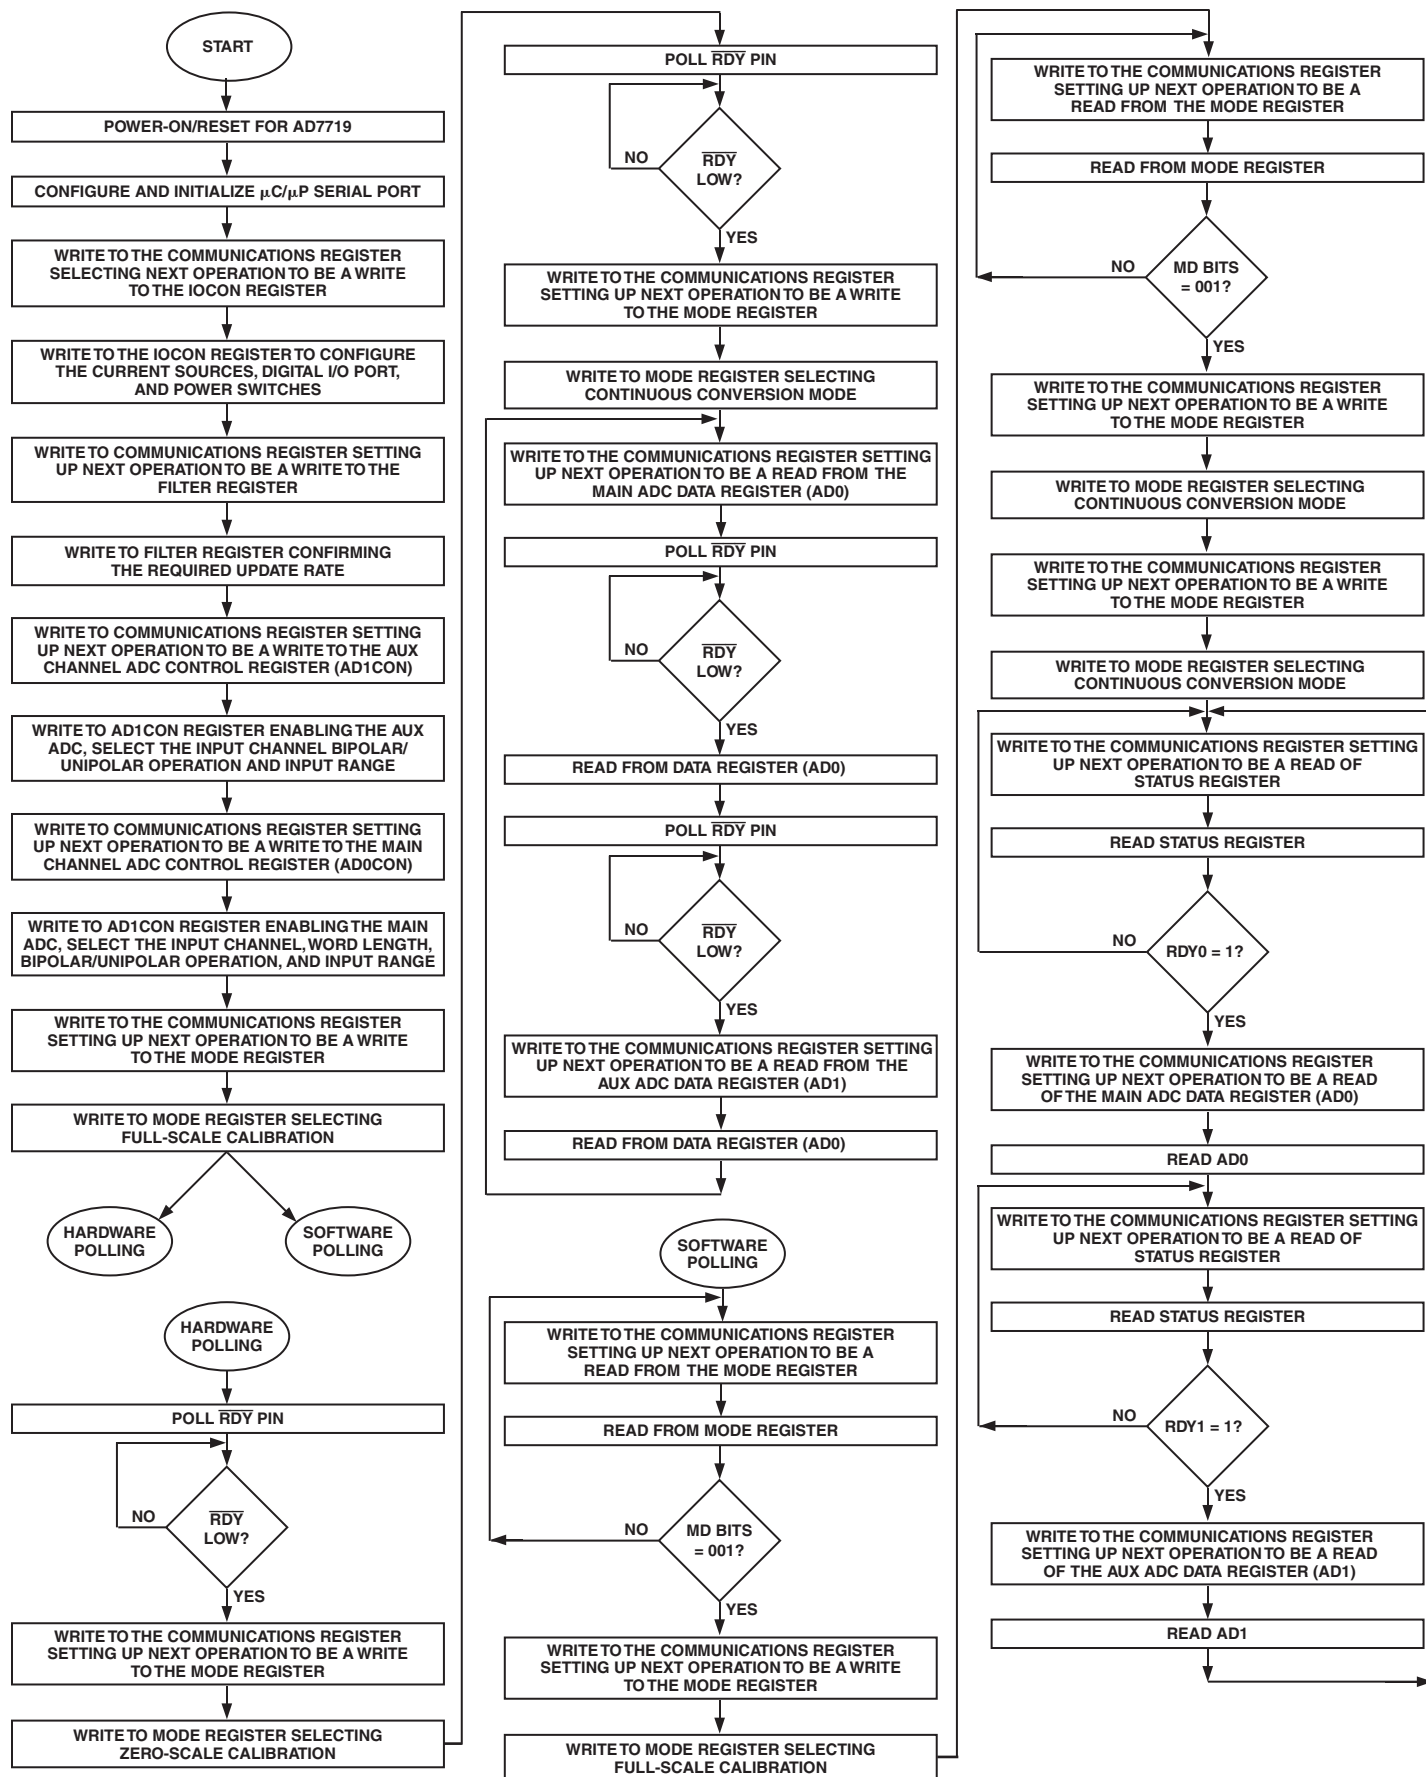
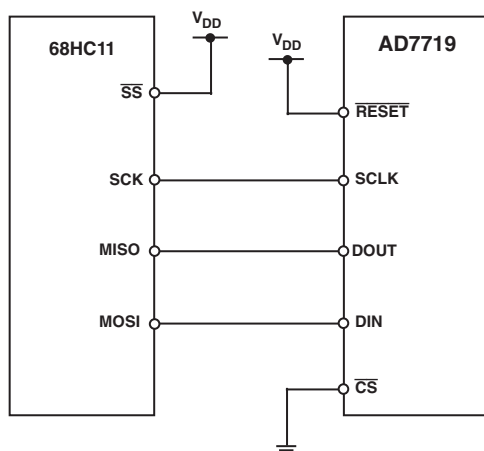

Figure 11. Flowchart for Initializing, Calibrating, and Reading Data from the AD7719 Main and Aux Channels
Figure 12. AD7719-to-68HC11 Interface
Figure 11 outlines a flow diagram of the sequence used to configure all registers after a power-up or reset on the AD7719. The flowchart shows two methods of determining when it is valid to read the data register or determine when a calibration cycle is complete. The first method is hardware polling of the $\overline{\text{RDY}}$ pin and the second method involves software interrogation of bits in the status and mode registers. The flowchart details all the necessary programming steps required to initialize the ADC and read data from the main and aux channel following a power-on or reset. The steps can be broken down as follows:
3. When the operating mode is selected, the user needs to determine when it is valid to read the data in conversion mode or when the calibration is complete in calibration mode. This is accomplished either by polling the $\overline{\text{RDY}}$ pin (hardware polling) or by interrogating the bits in either the Status or Mode registers (software polling). Both are shown in Figure 11. It is assumed that both the main and aux ADCs are being used and calibration is required. If the AD7719 is operated at the factory-calibrated conditions, a field calibration will not be required and these steps can be bypassed.
The AD7719's flexible serial interface allows for easy interface to most microcomputers and microprocessors. The flowchart of Figure 11 outlines the sequence that should be followed when interfacing a microcontroller or microprocessor to the AD7719. Figures 12, 13, and 14 show some typical interface circuits.
Figure 12 shows an interface between the AD7719 and the 68HC11 microcontroller. The diagram shows the minimum (3-wire) interface with $\overline{CS}$ on the AD7719 hardwired low. In this scheme, the RDY bits of the Status register are monitored to determine when the Data register is updated. RDY0 indicates the status of the main ADC channel while RDY1 indicates the status of the aux channel. An alternative scheme, which increases the number of interface lines to four, is to monitor the $\overline{RDY}$ output line from the AD7719. The monitoring of the $\overline{RDY}$ line can be done in two ways. First, $\overline{RDY}$ can be connected to one of the 68HC11's port bits (such as PC0), which is configured as an input. This port bit is then polled to determine the status of $\overline{RDY}$. The second scheme is to use an interrupt driven system, in which case the $\overline{RDY}$ output is connected to the IRQ input of the 68HC11. For interfaces that require control of the $\overline{CS}$ input on the AD7719, one of the port bits of the 68HC11 (such as PC1) that is configured as an output, can be used to drive the $\overline{CS}$ input.